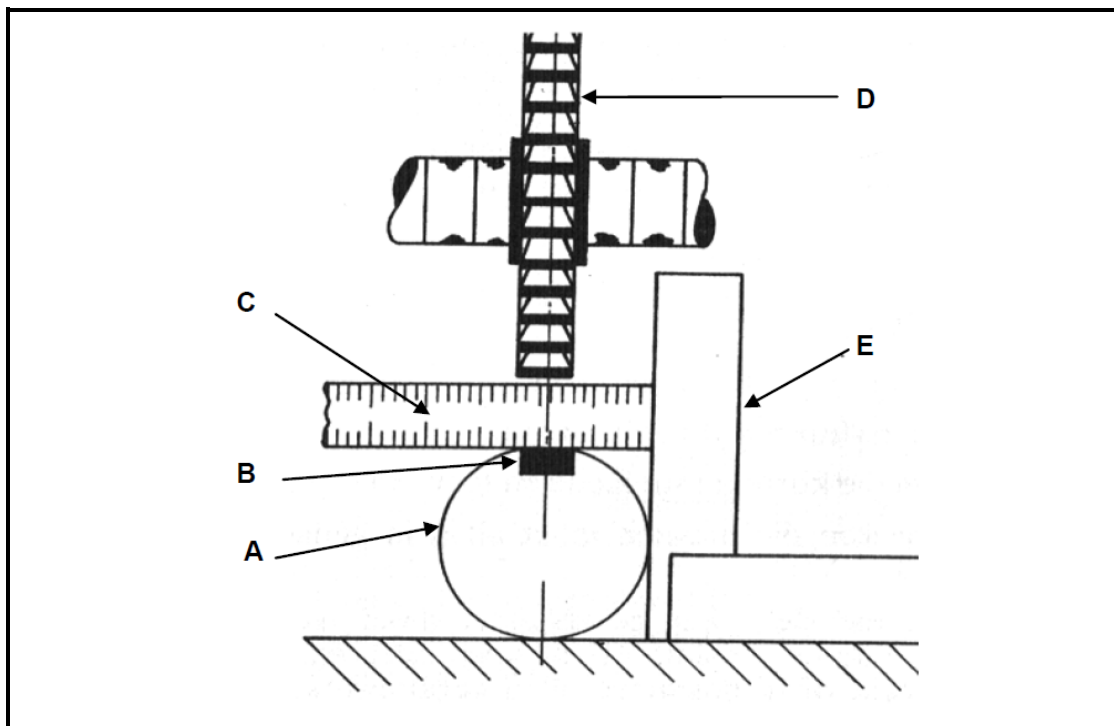

FIGURE 5.2
- 5.2 FIGURE 5.2 below shows a drawing of a keyway being cut with a 12 mm wide cutter on a 48 mm diameter shaft. Answer the questions that follow.